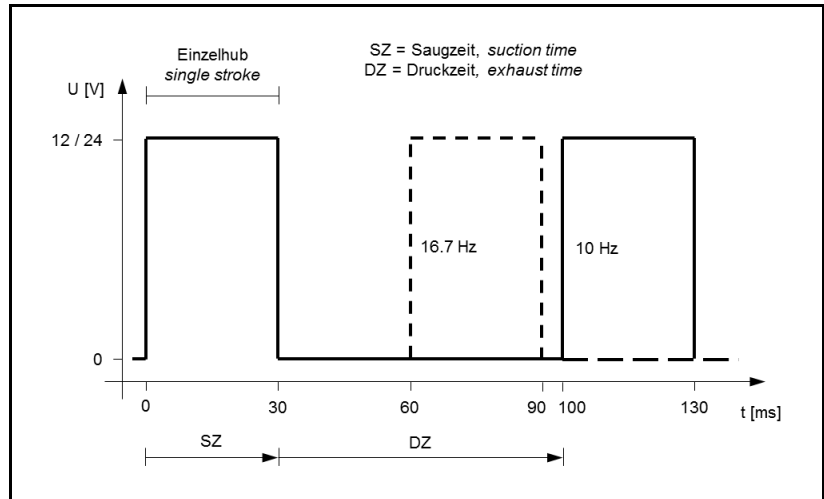

Fig. 7: Control signal (pulse)
i For reasons of accuracy the suction time, or the energised time (SZ), must be kept constant and the stroke frequency must be adjusted via the exhaust time (DZ) (see *Fig. 7*).